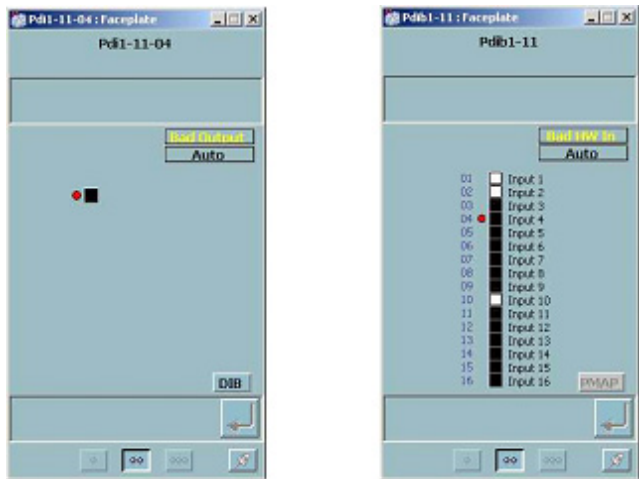

Figure 179. DI and DIB Module
**Discrete Input (DI / DIB).** Discrete input and discrete input block faceplates are representations of 800xA for DCI discrete (or digital) input tags. A DI module reports the current discrete value, alarm status, and quality that are presented in these faceplates and the DIB module reports the current discrete value for 16 DI modules. Figure 179 shows the layout of the DI and DIB normal sized faceplates and their attributes.